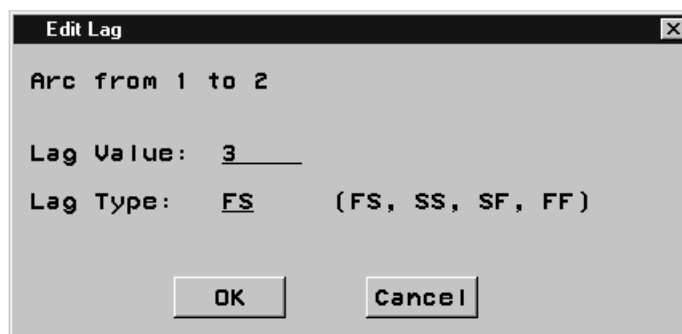

Figure 6.20. Edit Lag Dialog Box
You can modify the type of the precedence constraint or the lag value associated with the precedence constraint by clicking on the arc with the right mouse button and selecting "Edit Lag." The ensuing dialog box is shown in Figure 6.20. Enter the value of the lag duration in the first field and the type of the lag in the second field. Valid values of lag are Finish-to-Start (FS), Start-to-Start (SS), Start-to-Finish (SF), and Finish-to-Finish (FF).